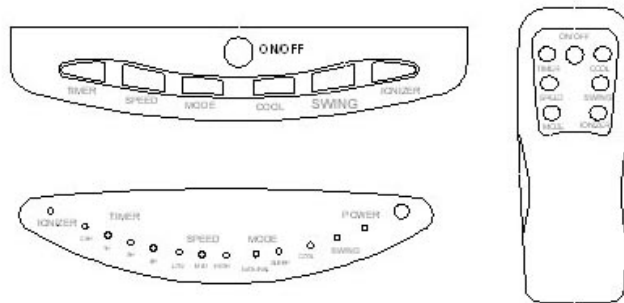

Fig1(control panel)
1. Control panel and remote functions (Fig. 1)